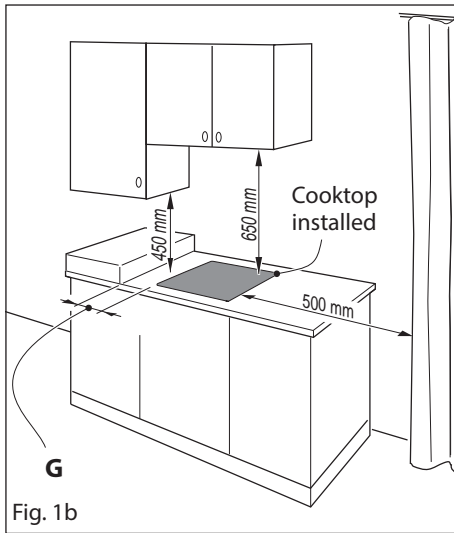

Fig. 1b
- There must be a distance of at least 650 mm between the hob and any wall cupboard or extractor hood positioned immediately above (see fig. 1b).